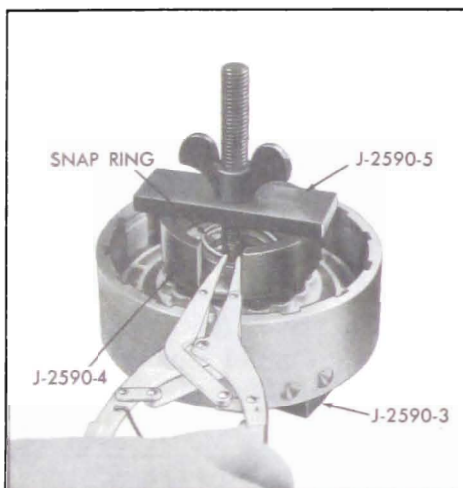

Figure 5-615
6. Using J-2590 clutch spring compressor, compress the spring retainer and remove the snap ring. See Figure 5-615.